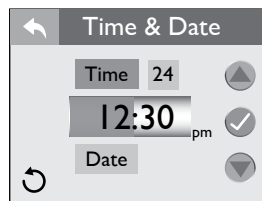

Figure 12.9c
1. When you enter the menu,  will be highlighted Orange, Figure 12.9c.